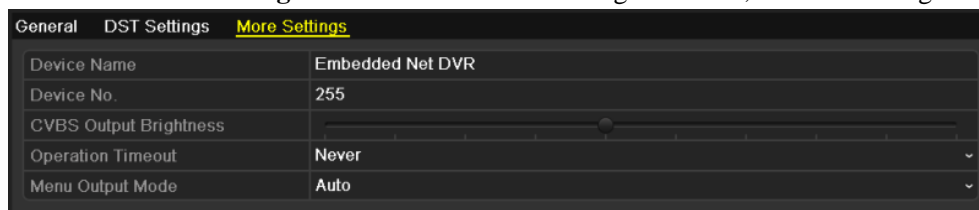

Figure 14. 4 More Settings Interface
2. Click the **More Settings** tab to enter the More Settings interface, as shown in Figure 14. 4.